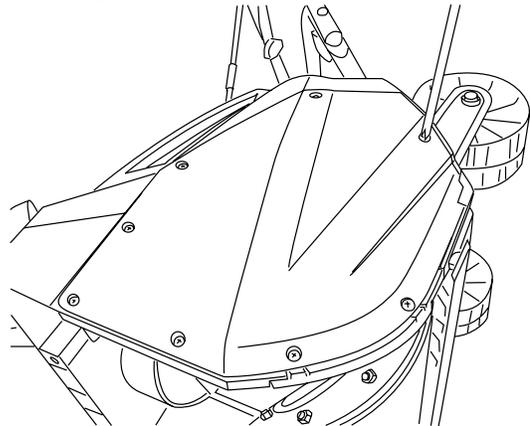

Figure 27
- Remove the screws from the left panel of the snow thrower (Fig. 27).